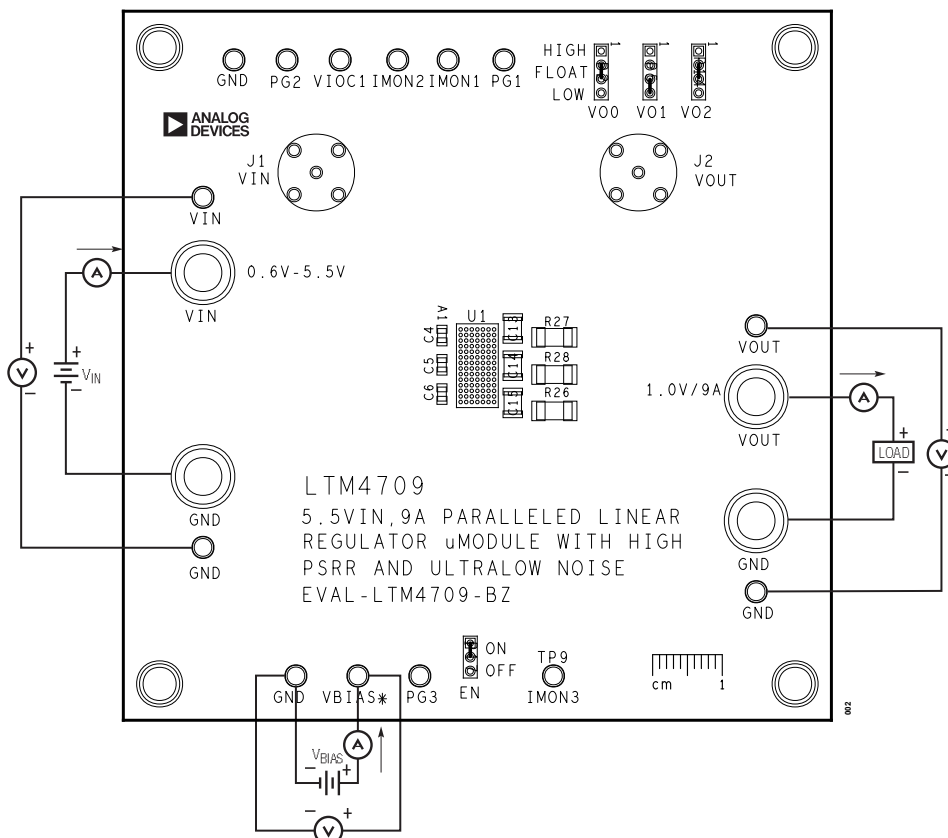

Figure 2. EVAL-LTM4709-BZ Measurement Setup
The EVAL-LTM4709-BZ evaluation board is an easy way to evaluate the performance of the LTM4709. See Figure 2 for proper measurement equipment setup and follow the procedure below.
1. With the input supplies off and turned down, make all the connections shown in Figure 2. Ensure that the VO0, VO1, and VO2 jumpers to set V_{OUT} are in the proper positions for the desired output voltage according to the V_{OUT} selection matrix table in the LTM4709 data sheet. Also, ensure that the EN jumper (P17) is in the ON position.